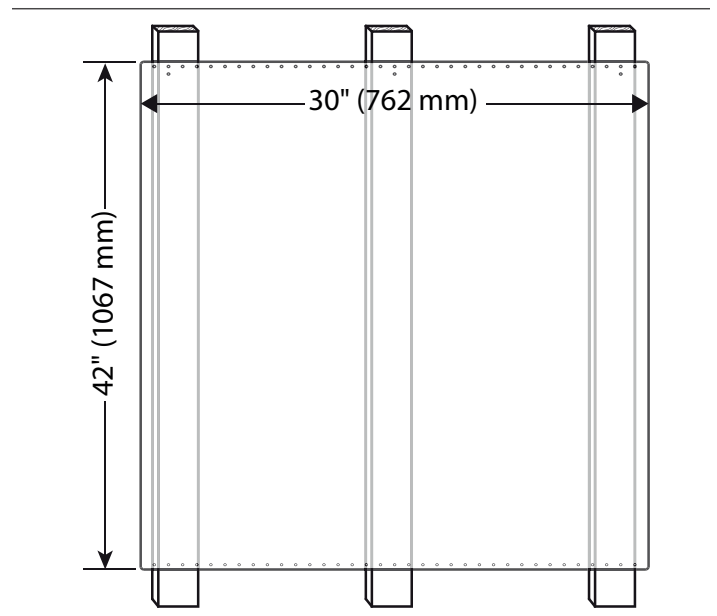

Figure 11: Backsplash Installation
3. Per each wall stud, use two (2) 1" (25.4 mm) Phillips head screws to secure both the top and bottom of the Backsplash (see *Figure 11*). Space screws evenly across top and bottom of Backsplash.